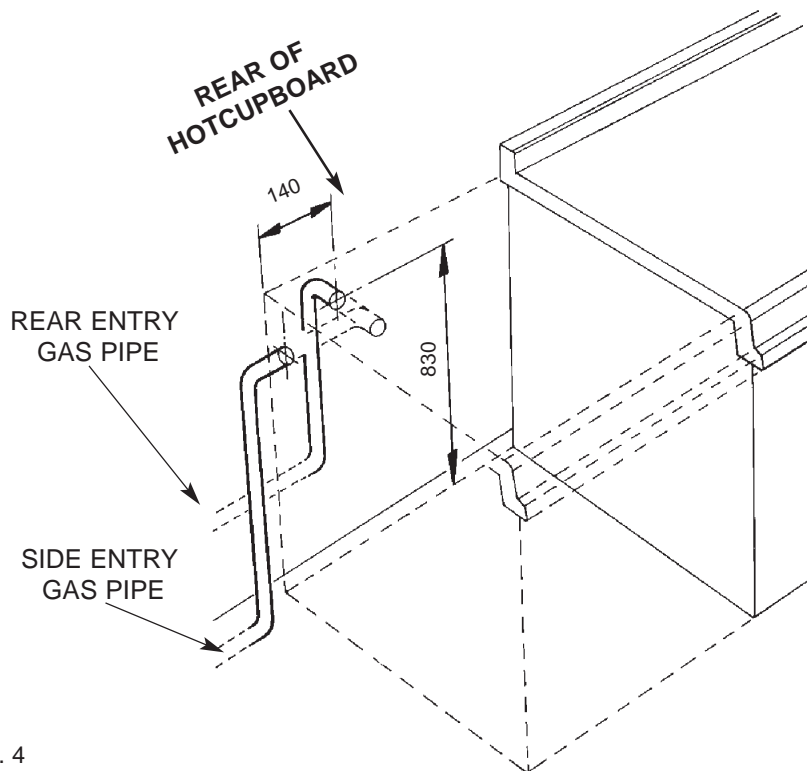

Fig. 4
- b) Isolate the gas supply and connect 8mm diameter pipework up to the approximate position for final connection to the hob unit. (See Fig. 4).